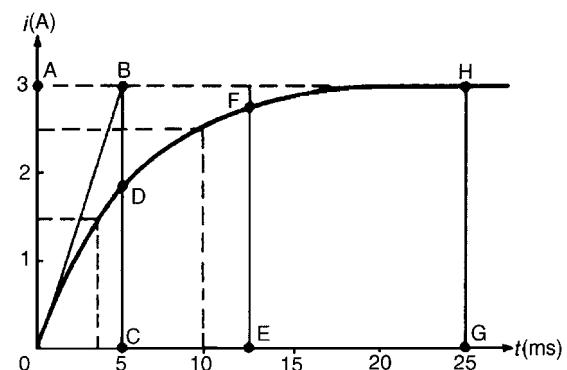

Figure 18.12
- (b) With reference to Fig. 18.12, the initial slope is obtained by making AB equal to 1 time constant, (i.e.  $5\text{ ms}$ ), and joining OB.